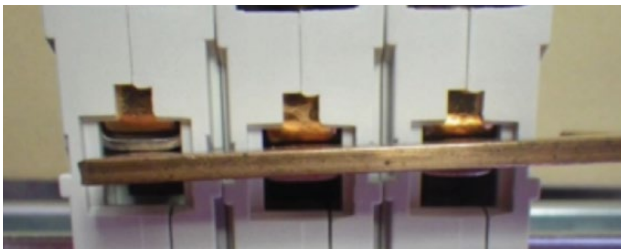

Fig 13. Circuit-breaker on left-hand side incorrectly installed with busbar tang/finger outside the termination clamp
- Ensure that busbar tangs/fingers are located correctly in the terminal (*see Fig 13*).